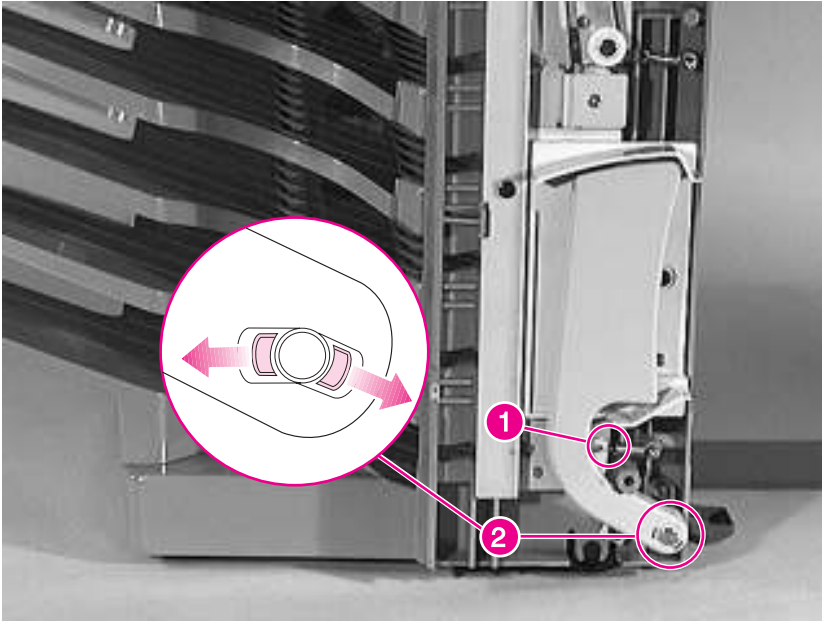

Figure 6-146 7-bin Tabletop Mailbox Handle
- 1 Remove the 7-bin Tabletop Mailbox Handle (figure 6-146).